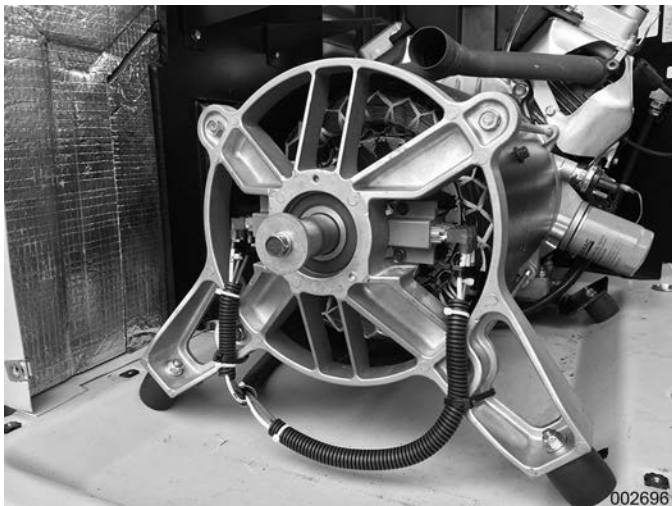

Figure 6-61.
5. **Install Brushes:** See **Figure 6-61**. Use a 7mm socket to secure the brushes to the rear bearing carrier. Properly route the brush wire harness to the back of the stator. If the brushes were disconnected from the harness, pay close attention to the wire numbers and positions during assembly. Use tie wraps to secure the brush wires to the outside of the rear bearing carrier legs.